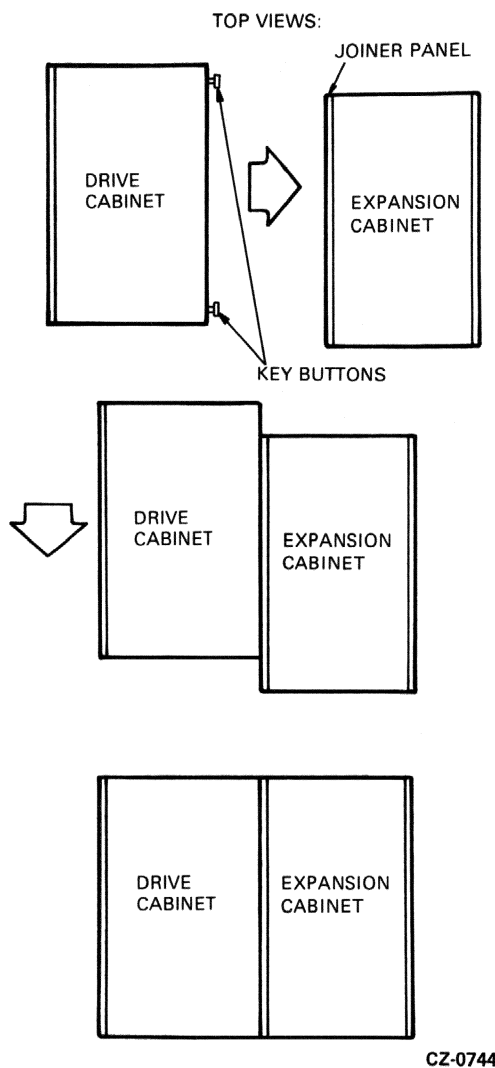

Figure 2-7 Joining the Cabinets
7. Join the two cabinets together as shown in Figure 2-7. Engage the top two key buttons on the first drive cabinet into the keyhole slots on the expansion cabinet joiner panel. Adjust the cabinets until their fronts are flush.